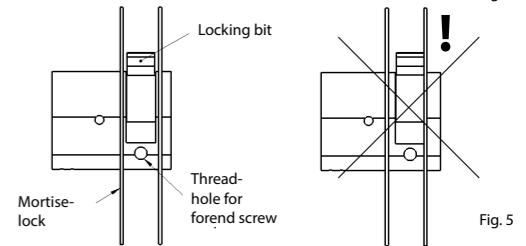

Fig. 5
**Achtung:** With the assembly it is important to regard that the lock bit functions centrally inside the mortise lock. It must not get in lateral contact with the mortise lock (Fig. 5).